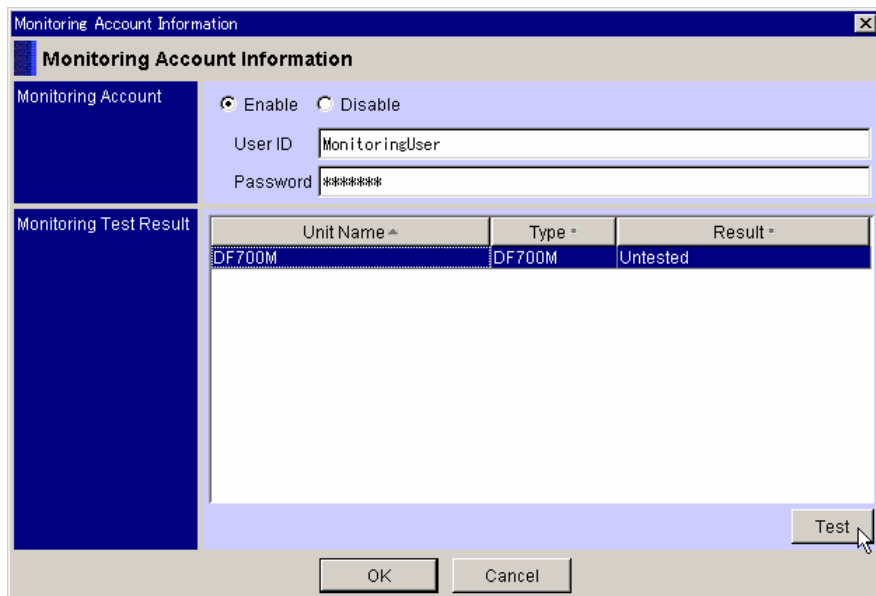

Figure 15.3 Monitoring Account Information Window
1. On the **Tool** menu, select **Error Monitoring** → **Account** to open the Monitoring Account Information window (see Figure 15.3).